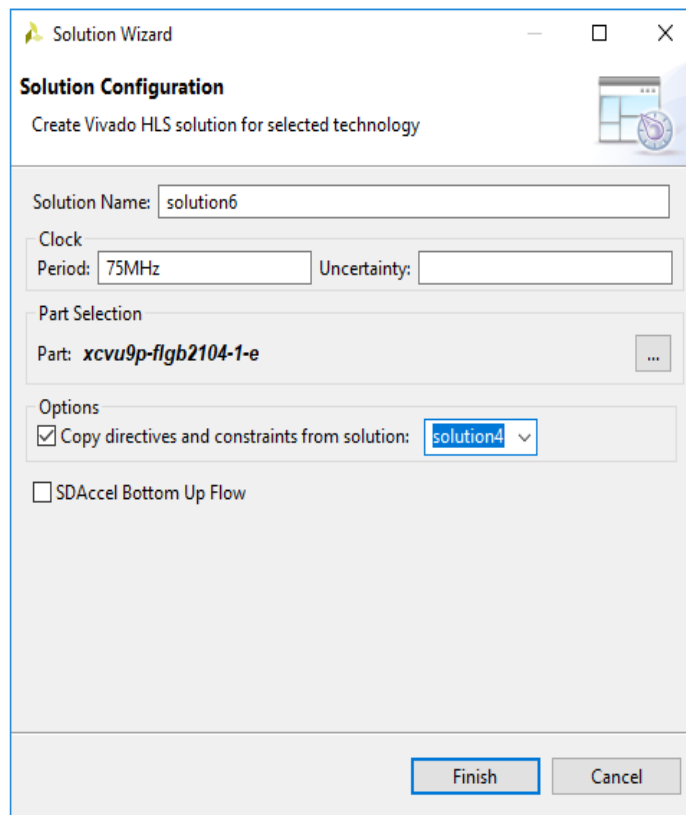

Figure 7-17: New Solution Based on Solution4 Directives
2. Select **solution4** from both the drop down menus in the **Options** section. The Solution Wizard appears as shown in Figure 7-17.